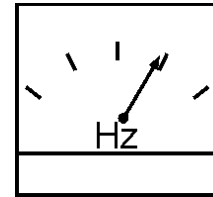

Figure 44. Frequency Meter
6. The generator's **frequency meter** (Figure 44) should be displaying the 60 cycle output frequency in **HERTZ**.